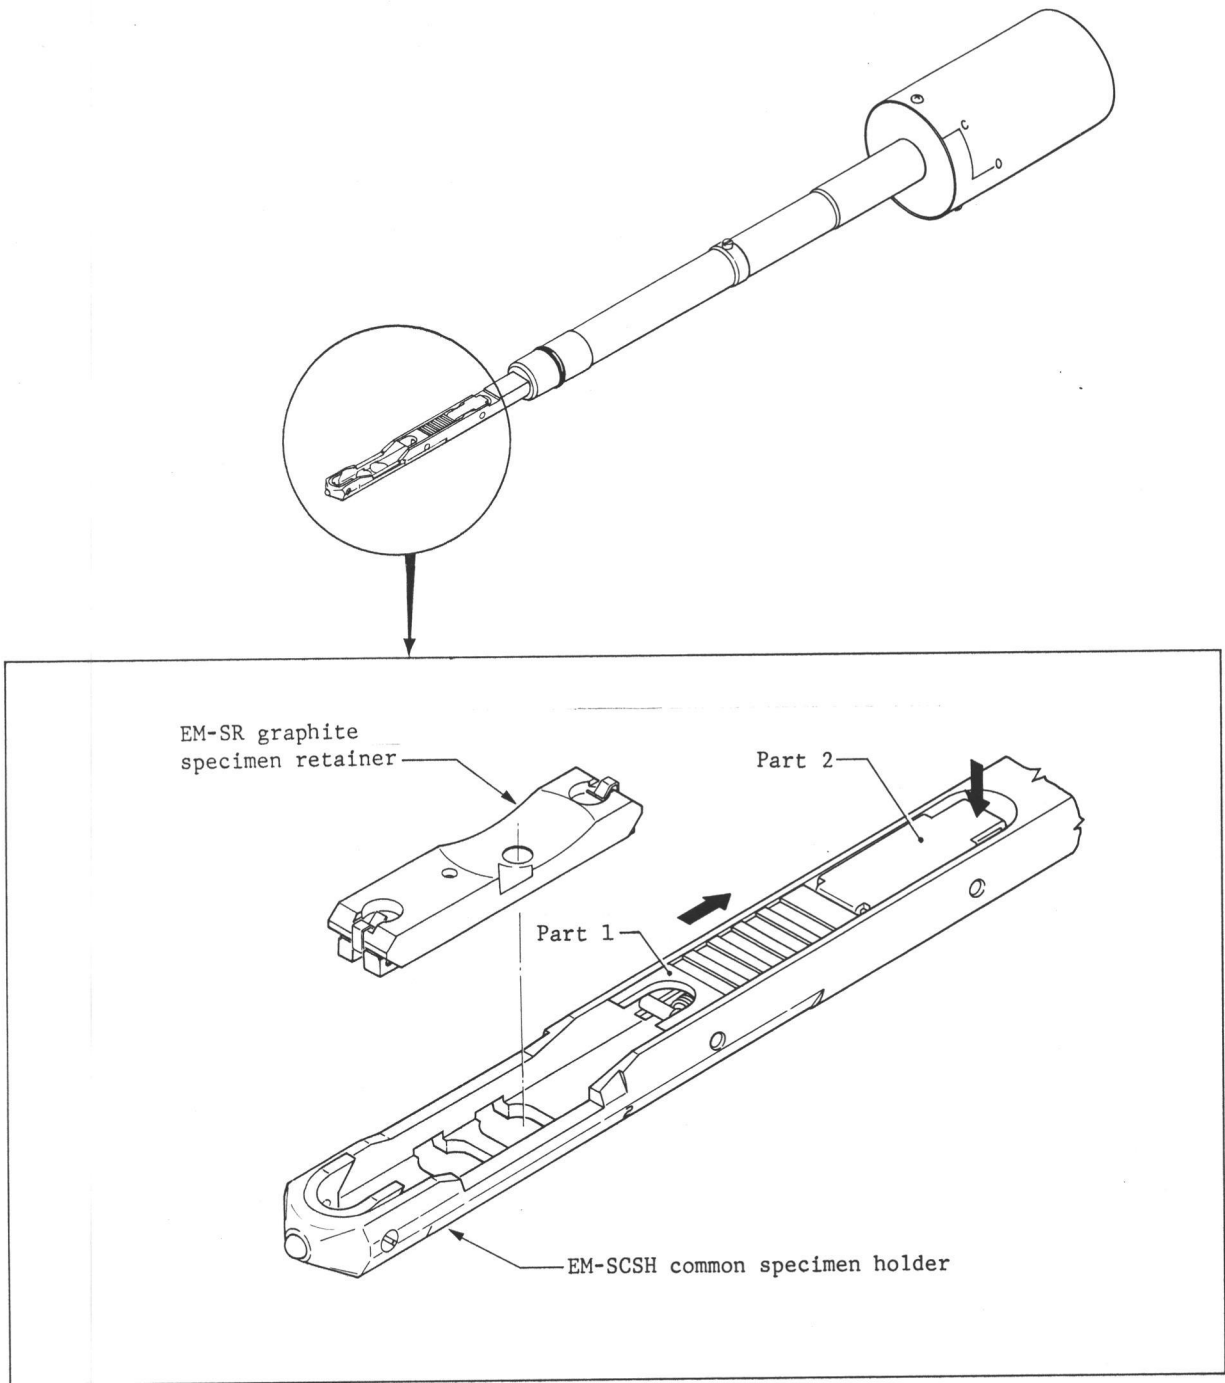

Fig. 11
1. With the specimen holder in the specimen holder storage box, move part 1 in the direction of the arrow until it stops. Then remove the specimen retainer from the specimen holder (Fig. 11).
4. Put the specimen retainer into the specimen holder and push part 2 in the direction indicated by the arrow (Fig. 11). The specimen plate is thereby secured.